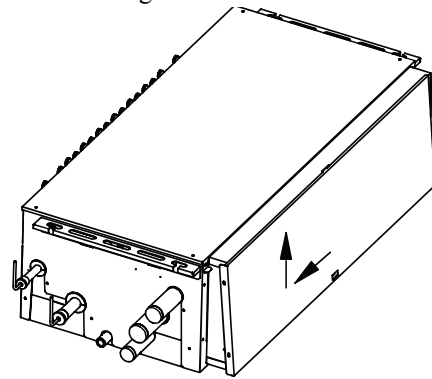

Fig. 19 — Removing the Electronic Control Box Cover
4. Push the cover about 1/2 inches and then lift up the cover as shown in Fig. 19.